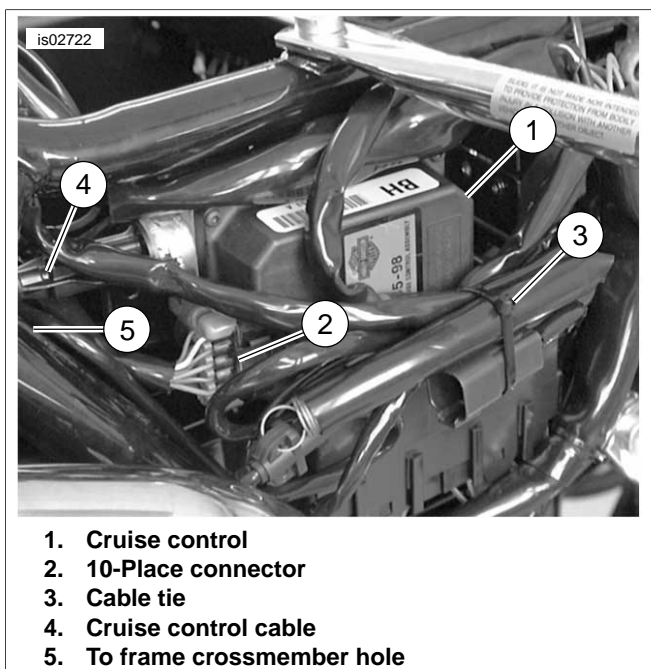

Figure 3. Mount Cruise Control Module
7. See Figure 3. Remove the fuse block cover panel by pulling straight out from mounts and temporarily position the cover away from the mounting area. Align the cruise module studs (and grommets) with mounting holes in battery box and push module firmly into position. Make sure grommets enter mounting holes in battery box.